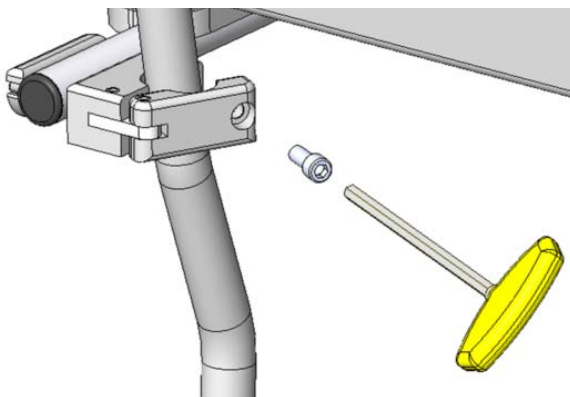

Figure 5
**J Cantilever Arms:** If desired, the cantilever arms can be removed from the backrest assembly for storage during traveling. This can be accomplished by unscrewing the socket head cap screws that attach the arms to the backrest posts using the 5/32" Allen wrench. Then remove the arm assemblies from the posts and re-insert the socket head cap screws into the arm assemblies, so they are not lost. To re-install the cantilever arms, simply follow the steps above in reverse (Refer to Figure 5).